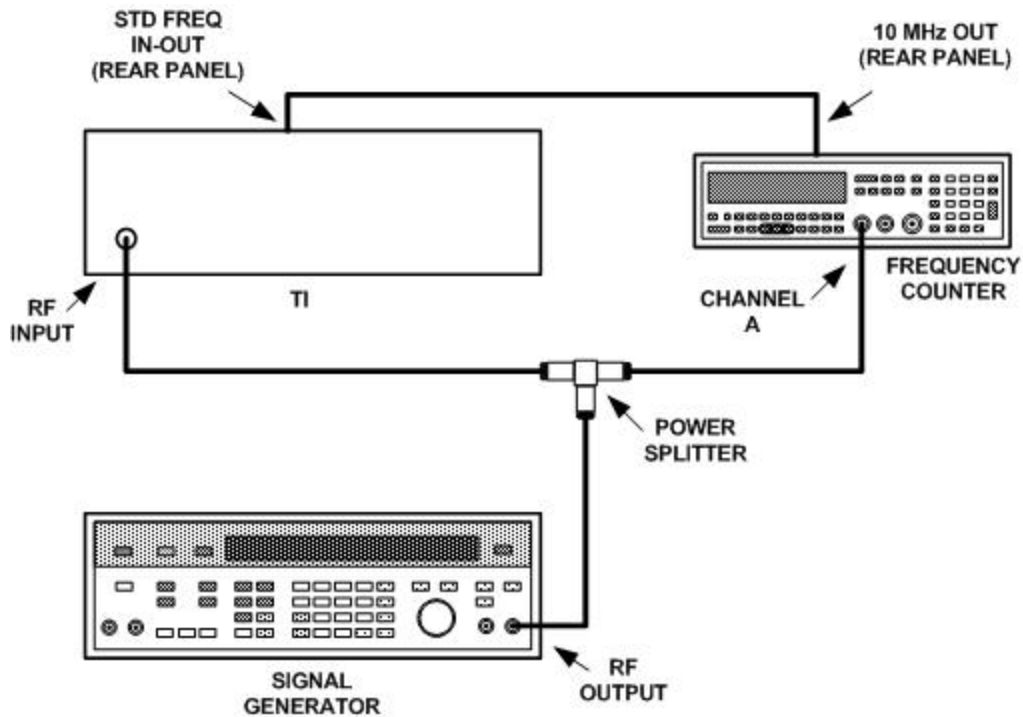

Figure 1. Frequency accuracy - equipment setup.
(1) Connect equipment as shown in figure 1.